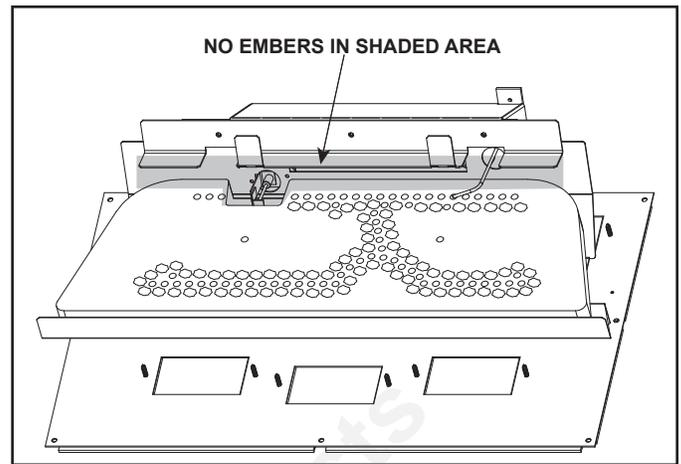

Figure 16.9 Placement of Embers
- Embers may only be placed in areas as shown in Figure 16.9.